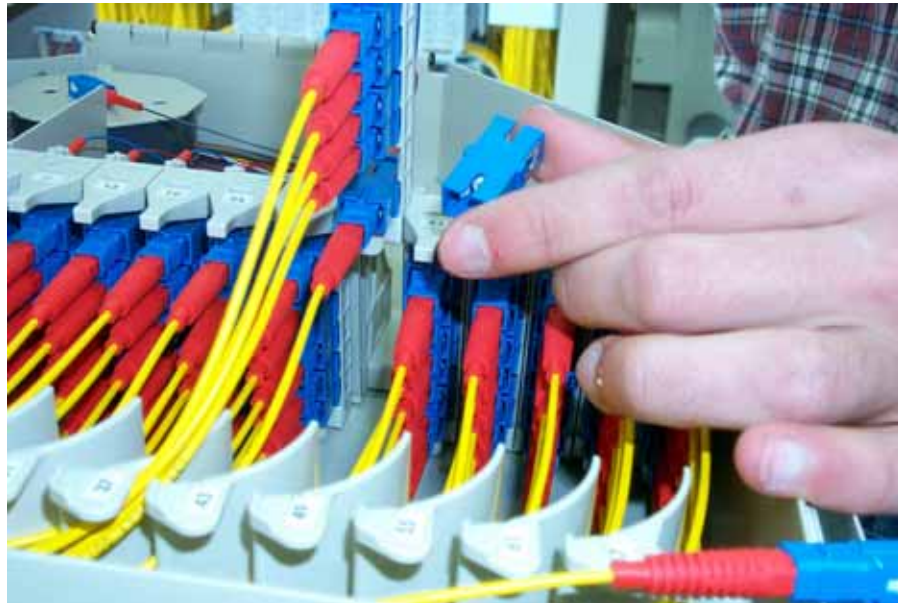

Figure 77. Removed Adapter
8. Remove the adapter fully from the adapter pack by gently sliding the adapter forward as shown in Figure 77.